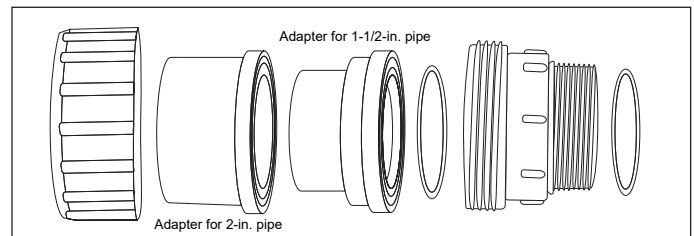

Figure 3
Choose a 1-1/2 in. or 2 in. adapter to match your pipe size. (See Figure 3).
The pump accepts 230V, 50 or 60Hz single phase input power. The terminal block connections are capable of handling up to 12AWG solid or stranded wire. There are also fast-on type quick connectors, however, check the local electrical codes for the desired connection method. The connections must be permanently made to the grounding terminal (**see Figure 3**) in the field wiring compartment according to the local electrical code.
1. Be sure all electrical breakers and switches are turned off before wiring motor. Always wait five (5) minutes after disconnecting the power from the pump before opening or servicing the drive.
5. Permanently ground the motor using the ground screw located on the inside rear of the controller interface (**see Figure 3**). Use the correct wire size and type specified by the current National
6. Bond the motor to all metal parts of the pool structure and to all electrical equipment, metal conduit and metal piping within 5 feet (1.5 M) of the inside walls of the swimming pool, spa or hot tub in accordance with the current National Electrical Code. UL requires use of a solid copper bonding conductor not smaller than 8 AWG. (**See Figure 3**).